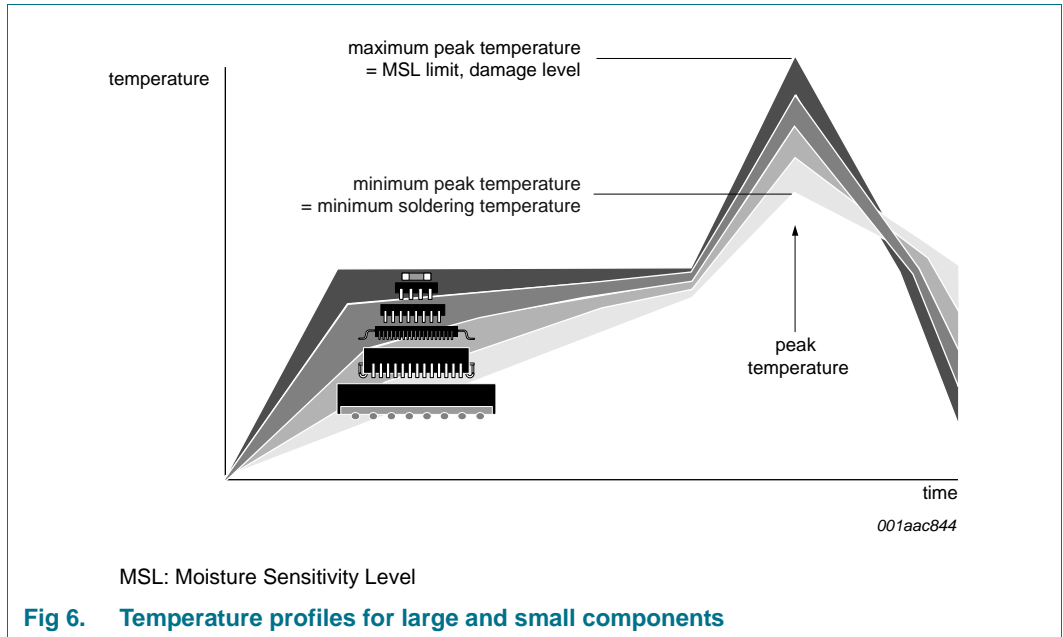

Fig 6. Temperature profiles for large and small components
- Lead-free versus SnPb soldering; note that a lead-free reflow process usually leads to higher minimum peak temperatures (see Figure 6) than a SnPb process, thus reducing the process window
Studies have shown that small packages reach higher temperatures during reflow soldering, see Figure 6.